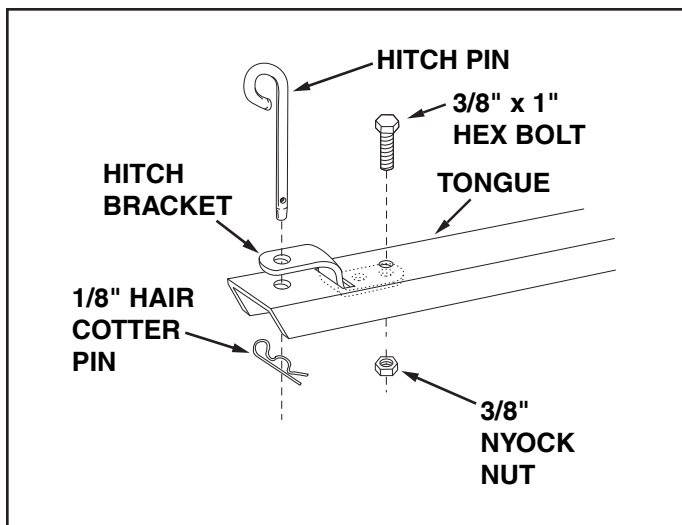

FIGURE 14
- Assemble the end of the hitch bracket (two holes) down through the slot at the front of the drawbar tongue. Fasten it to the tongue using the 3/8" x 1" hex bolt and 3/8" nylock nut. **Tighten.** See figure 14.